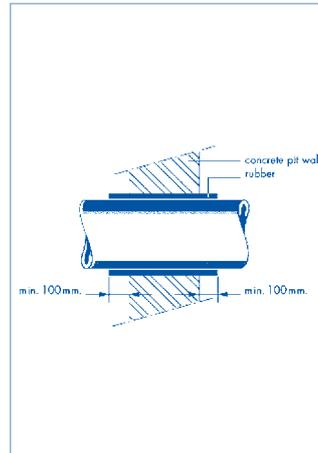

Figure 35: No connection of the pipe to the wall
6. No connection of the pipe to the wall, (Figure 35).